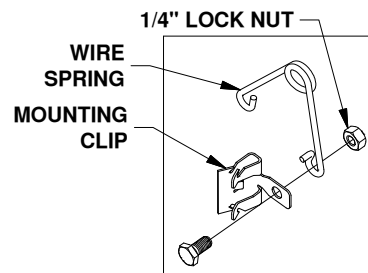
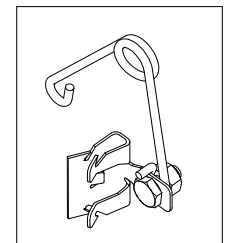

Figure D1: Leveling kit parts.
Figure D2: Assembled leveling kit.
1. **Assemble kit.** Locate the 1/4" cap screw and nut, along with the wire torsion spring and mounting clip. Pass the 1/4" cap screw through the mounting clip and the wire spring, as shown in Figure D1. Thread the 1/4" lock nut onto the 1/4" cap screw. Tighten the lock nut just enough that the spring will stay in place but will still be able to rotate around the bolt if needed, see Figure D2.